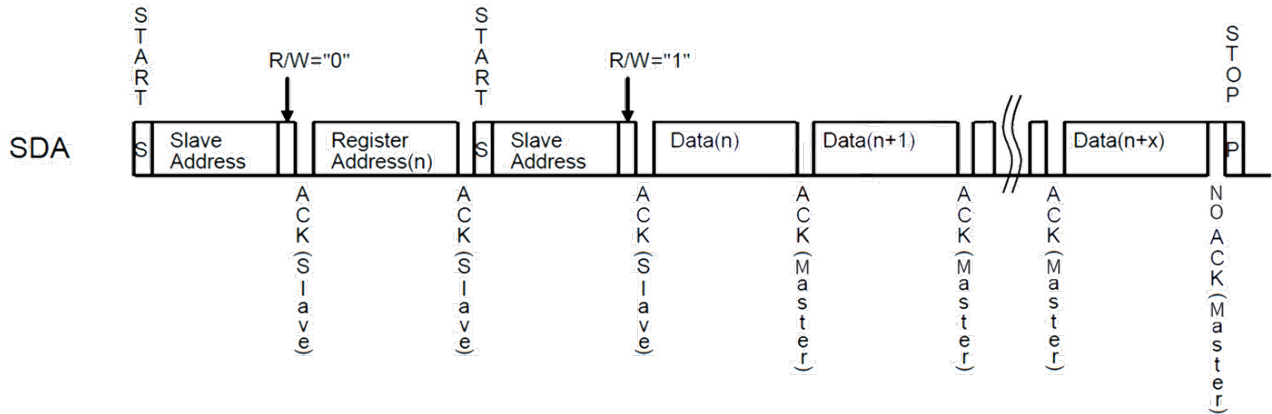

Figure.6 I2C Timing Diagram(2)
(1) The field range & the sensitivity can be adjusted through the I2C interface, refer to Figure.6